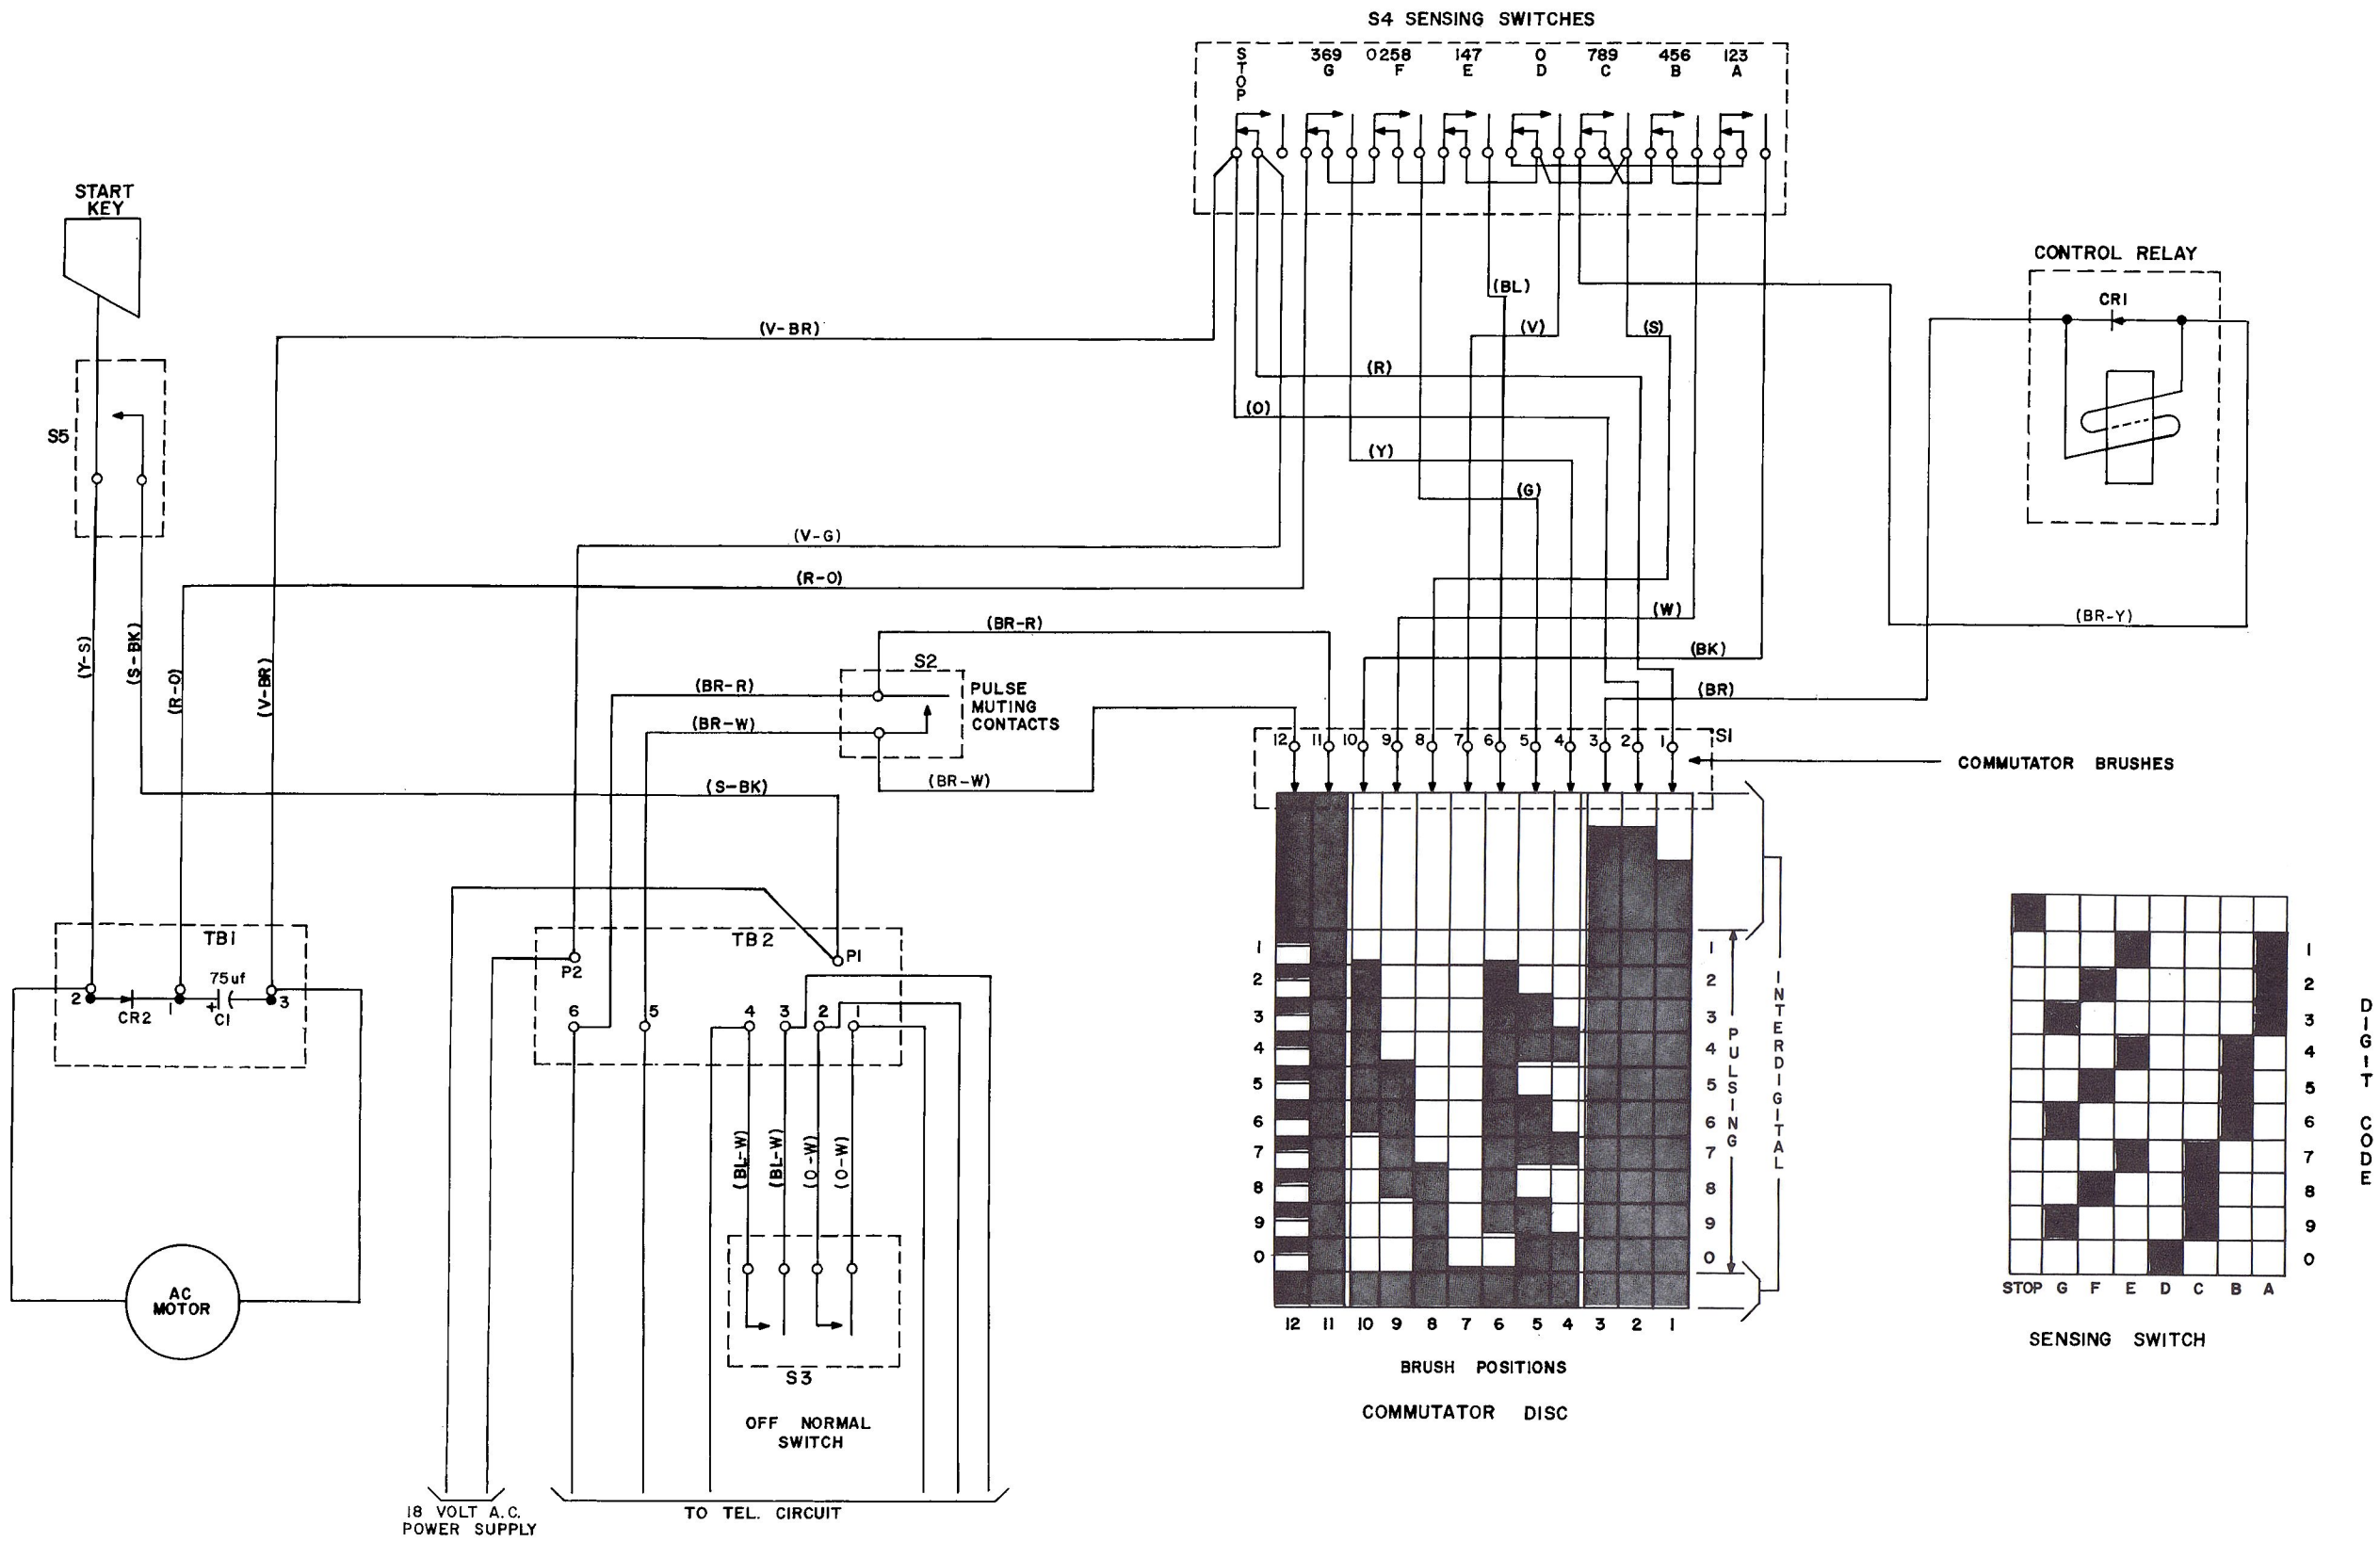

Fig. 6 - 41A Dial, Schematic
3.03 Depressing the START button closes the start contacts. The motor starts driving the commutator disc in a clockwise direction (when viewed from the top) at 37.5 rpm. The disc rotates a sufficient distance to generate 5 pulses on the telephone line. With the disc in this position there is a completed circuit for the operation of the control relay (Fig. 6) from P1 on TB2 through the operated start contacts, terminal 2 to 1 on TB1, normal contacts sensing switch G, operated contacts sensing switch F, to brush 5 on commutator disc. The circuit continues from brush 9 on the disc, operated contacts on sensing switch B, normal contacts sensing switch C, winding of control relay to brush 1 on the disc, back on brush 2 to swing spring on stop contact to terminal P2 on TB2.